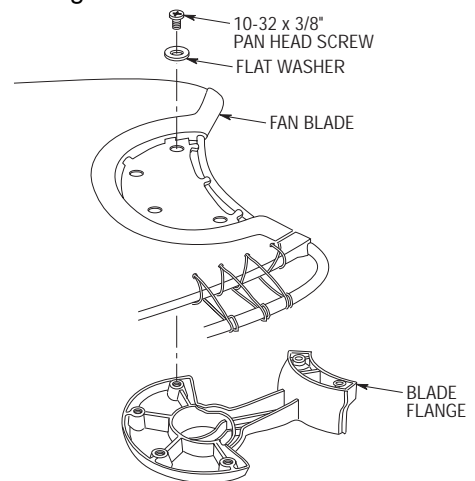

Figure 11
1. Use four 10-32 x 3/8" pan head screws and flat washers (supplied) to secure the flange to the fan blade (ordered separately) (Figure 11). Repeat for the remaining four blades.